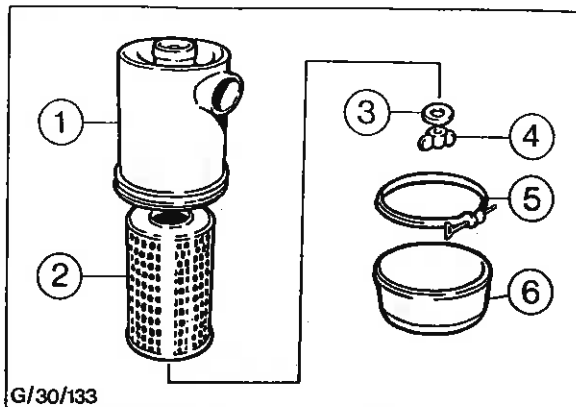

Fig. 8 - Paper Element Air Cleaner
1. Slacken off the clamp screw and remove the clamp and dust cup - see Fig. 8.